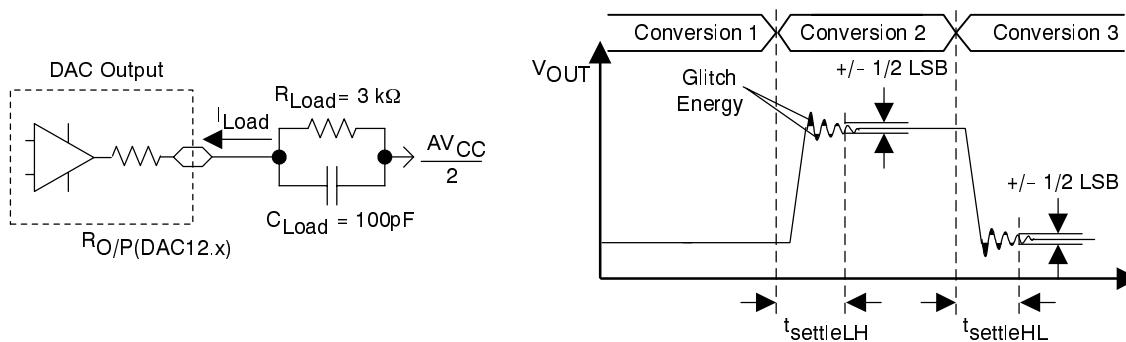
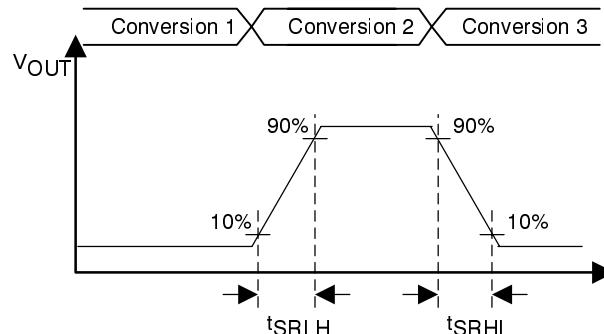

Figure 45. Settling Time and Glitch Energy Testing
Figure 46. Slew Rate Testing
12-bit DAC dynamic specifications, V_{ref} = V_{CC}, DAC12IR = 1 (see Figure 45 and Figure 46)
1. R_{Load} and C_{Load} are connected to AV_{SS} (not AV_{CC}/2) in Figure 45.